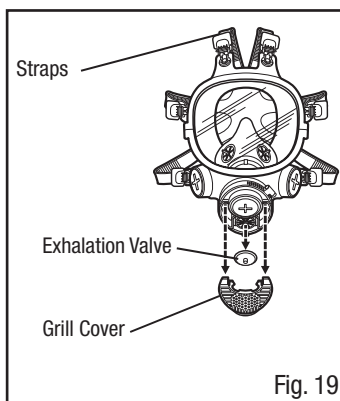

Fig. 19
5. Replace the valve if necessary. Secure the valve cover prior to use (Fig. 19). Examine the lens for signs of cracking or other damage. Replace if necessary.